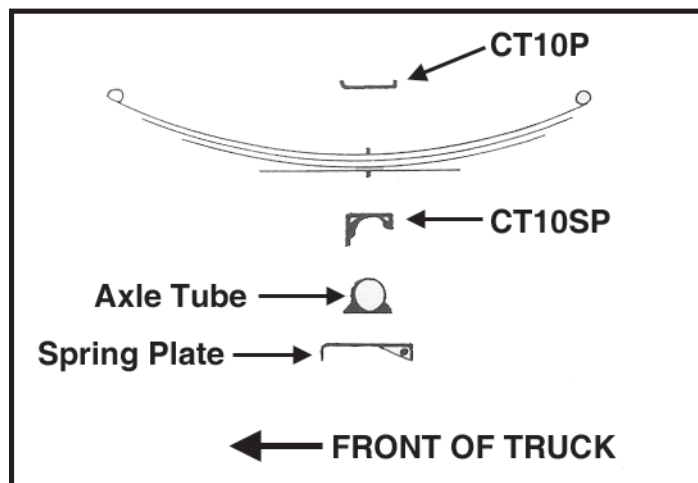

Fig. 5R
5. Install brackets "SP" onto axle, short end forward. Install springs over axle, attach spring ends using OE bolts. Run up, **do not tighten anchor bolts at this time**. Install u-bolts placing TM bracket "P" atop spring and OE u-bolt plate on bottom of axle. **Fig. 5R**. Use 9/16" high nuts and OE washers to retain. Run up. Crowd OE u-bolt plates rearward to ensure clearance for installation of larger bodied shocks provided. Torque u-bolts to specification.